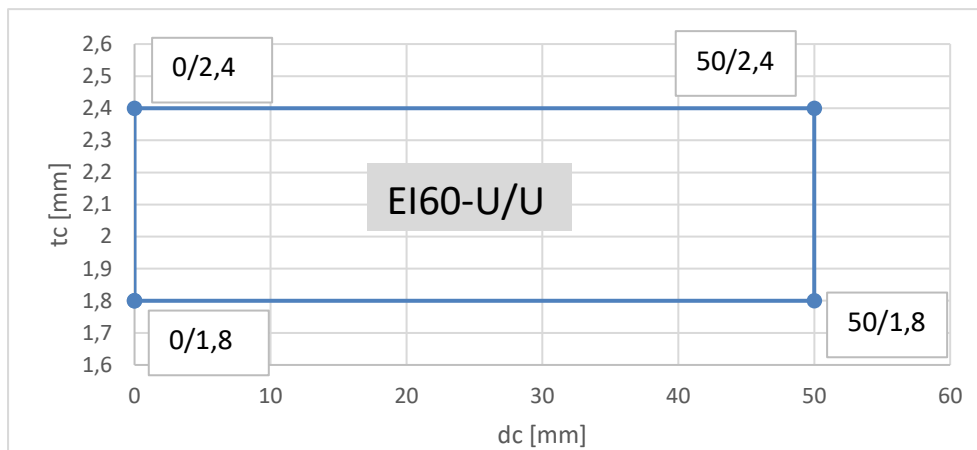

Figure 39: Classified pipe range for PVC-pipes, sealed with CFS-IS
Classification shown in Figure 39 is valid for:
- For dimension refer to Figure 39